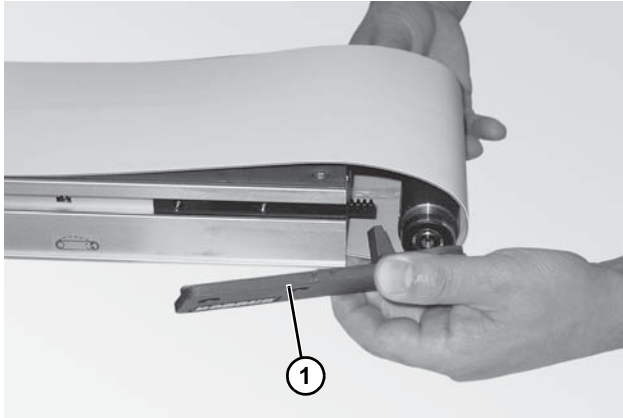

Figure 65
2. Place the head plate (Figure 65, item 1) and attach the head plate to the conveyor frame with the two (2) plates removed. tighten screws 60 in-lb (7 Nm).